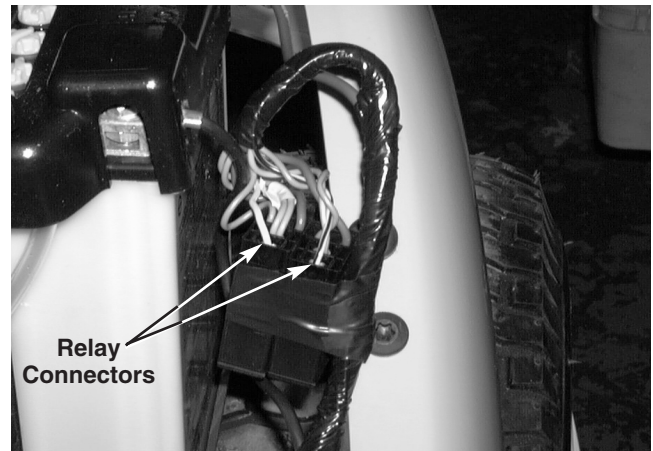

FIGURE 11.
- 33). Locate the relay connector with the yellow/white wire running into it. See figure 11.